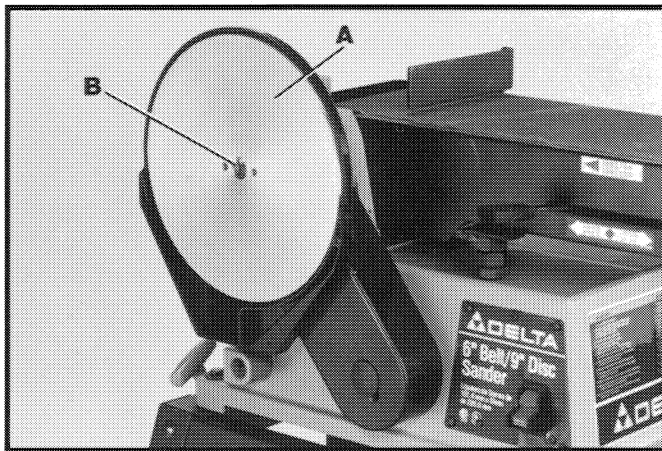

Fig. 10
2. Slide sanding disc plate (A) Fig. 10, onto shaft until surface of disc plate and drive shaft (B) are nearly flush. Shaft (B) must not extend out past plate surface.